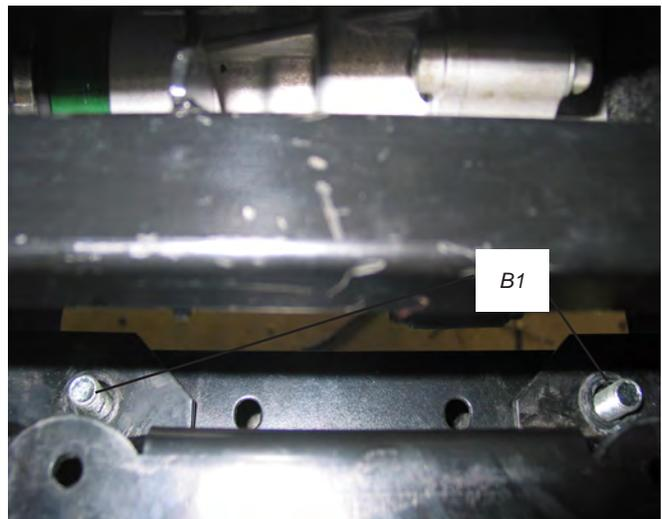

Figure 8 Install fasteners
9. Position bumper back onto the vehicle. Position plow mount over fasteners installed in step 3. See Figure 8.